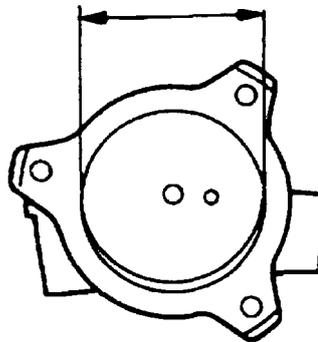

Figure 300 Measuring the Vacuum Pump Housing
- (3) Measure the inside diameter of the vacuum pump housing and check that the dimension is between 57.0 to 57.1 mm (2.244 to 2.248 in). Replace the vacuum pump assembly if it is not within specification (Figure 300).